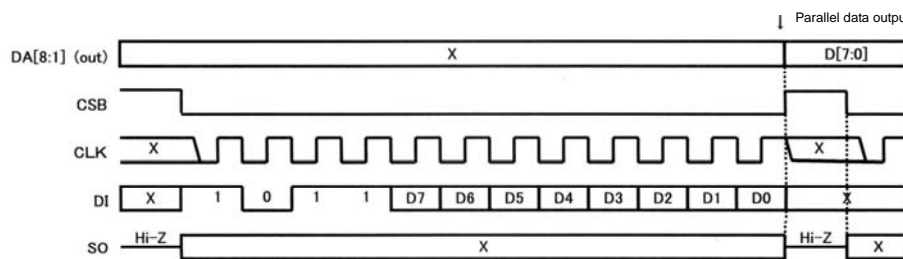

Fig.7
• D/A Converter Output Setting (Fig. 7)